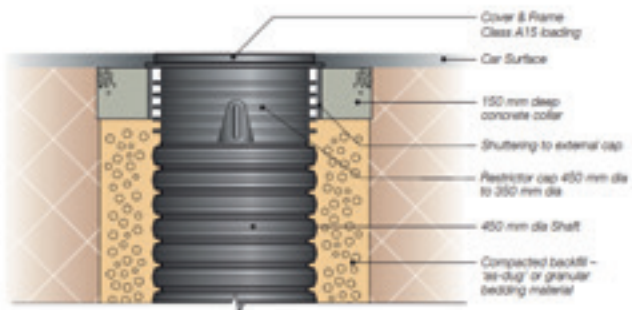

Figure 19: A15 cover solution.
**A15** – Non-loaded green/landscape areas only accessible to pedestrians and bicycles. For this application, galvanised covers and frames are recommended. A concrete ring should always be used. In any case direct load to the top of the shaft should be avoided. See figure 19.